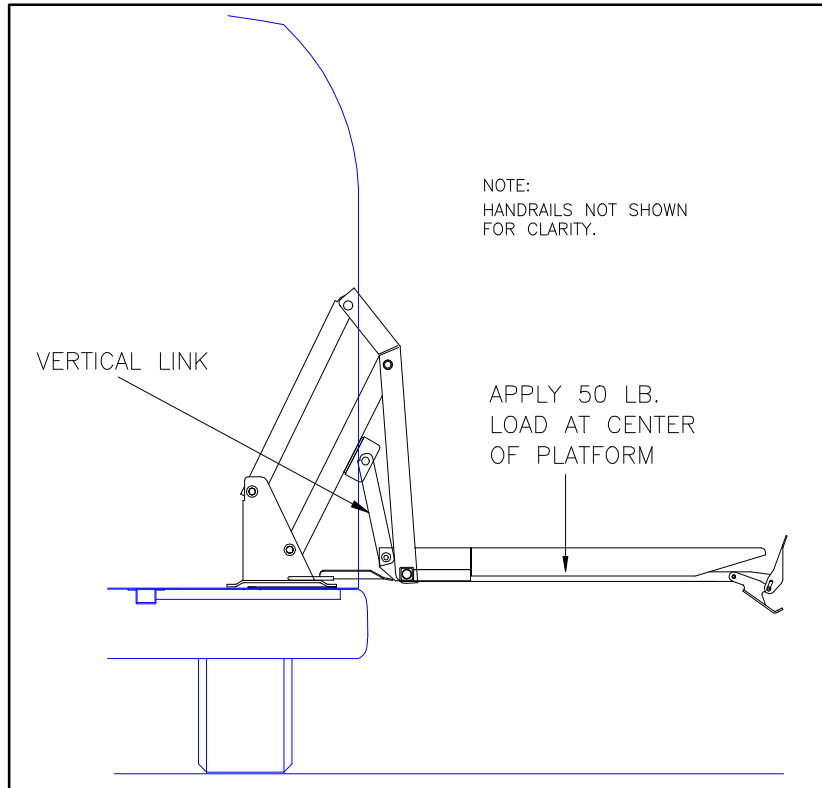

FIGURE 2-20: PRESSURE SWITCH TEST AT FLOOR LEVEL
- a. Refer to **Figure 2-20**. Deploy and lower platform to ground. Place a 50 lb. load in center of platform and then raise platform to floor level. Press and hold STOW switch.
- d. Refer to **Figure 2-20**. To verify proper load sensor switch operation, deploy and lower platform to ground. Place a 50 lb. load in center of platform and then raise platform to floor level. Press and hold STOW switch.